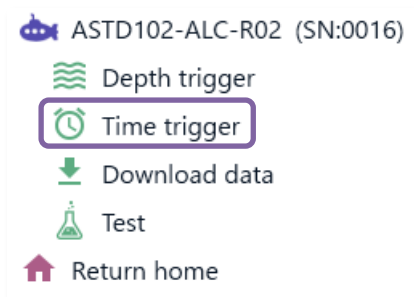

Figure 6.19 Time-trigger measurement
- (1) Connect the instrument to the PC and launch the software.
- (2) Choose the instrument to use from “instrument menu”. (Refer to “6.2 Choosing the Instrument to Use”)
- (3) Choose “Time trigger” from “function menu”. (Figure 6.19)